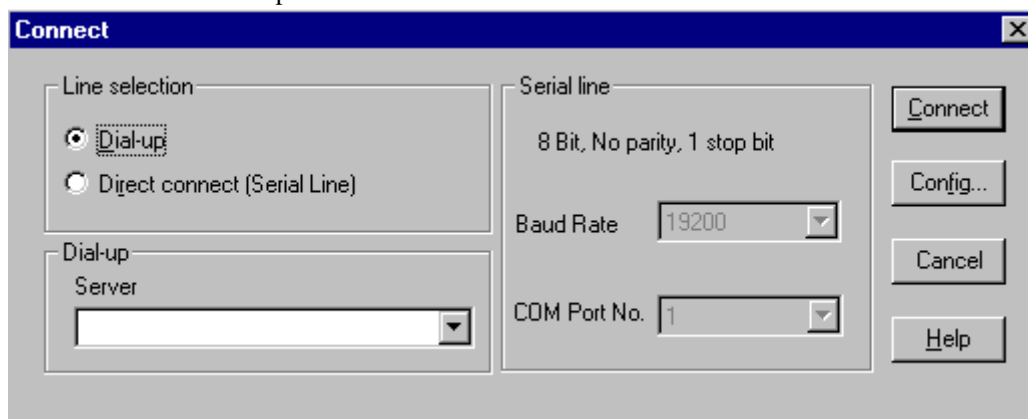

Figure 5: Connection Box
9. Once you have entered in the information for connecting to the server, click on the **Connect** button on the Phone Book screen. This will return you to the Connect dialog box (Figure 5). Click on the **Connect** button on this screen to begin the connection process.